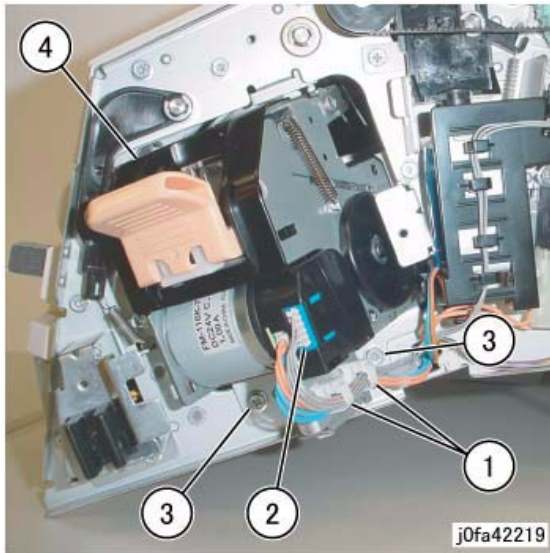

Figure 1 Removing the Staple Assembly (j0fa42219)
3. Remove the Staple Assembly. (Figure 1)